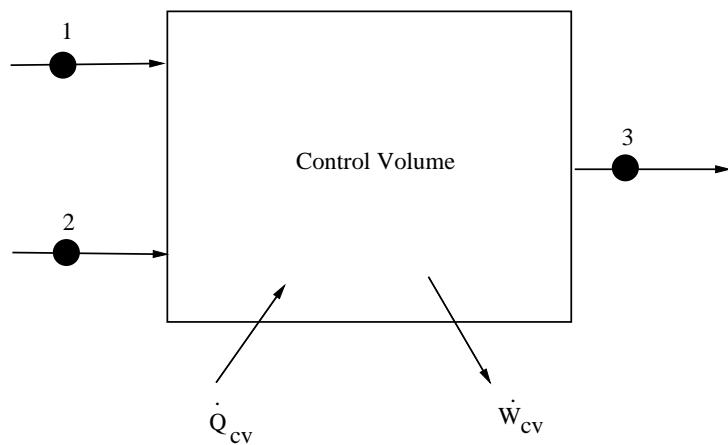

Figure 2: Schematic for Problem 3
3. Consider the control volume shown in Figure 2 operating in steady state. Two steady flows of air enter the control volume as shown, are mixed together in it, and exit at state 3. The temperature and pressure in state 1 are 200°C and 500 kPa and the mass flow rate is 2 kg/s. The temperature and pressure at state 2 are 100°C and 500 kPa and the mass flow rate is 5 kg/s. The exit pressure is 100 kPa. The velocities in states 1 and 2 are negligible. The exit velocity is not negligible, and is measured at 50 m/s. Potential energy changes can be ignored. Assume specific heats to be constant.